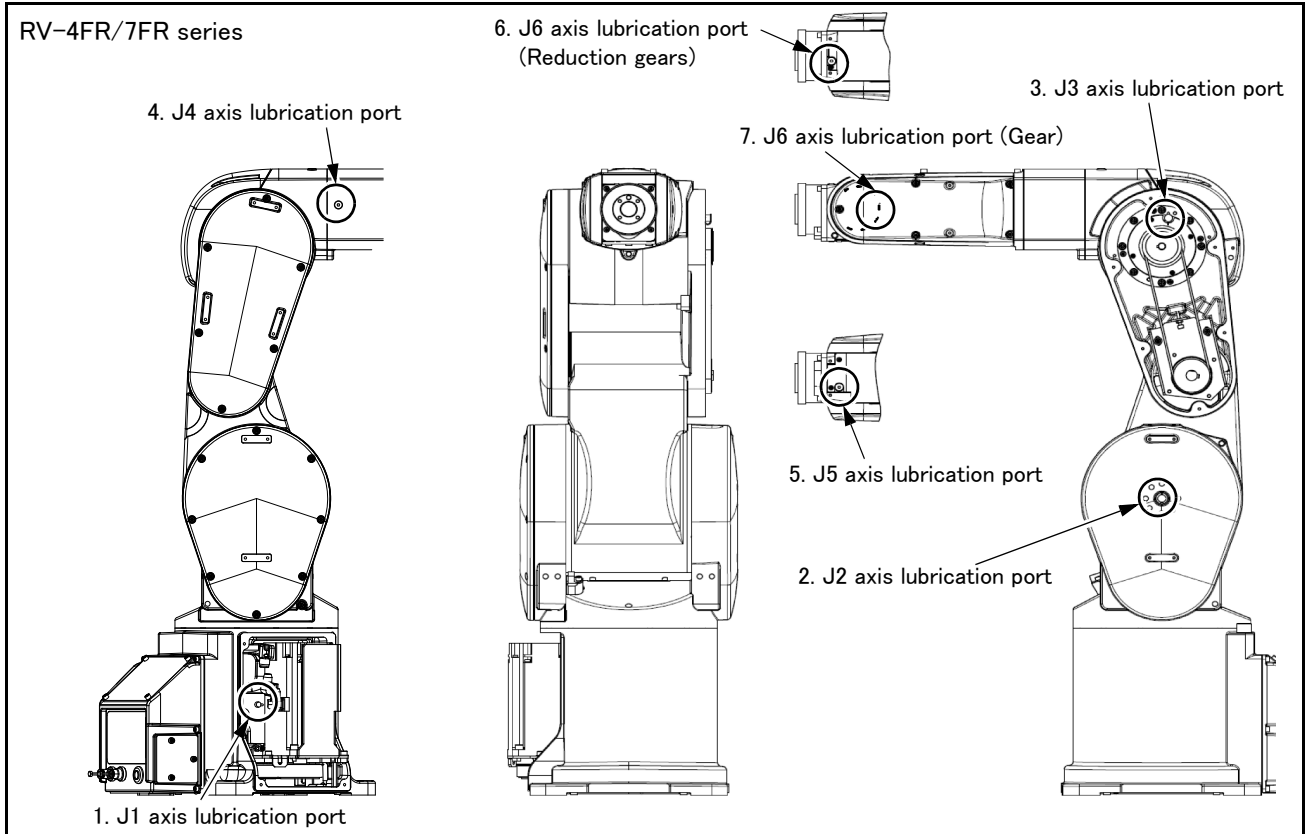
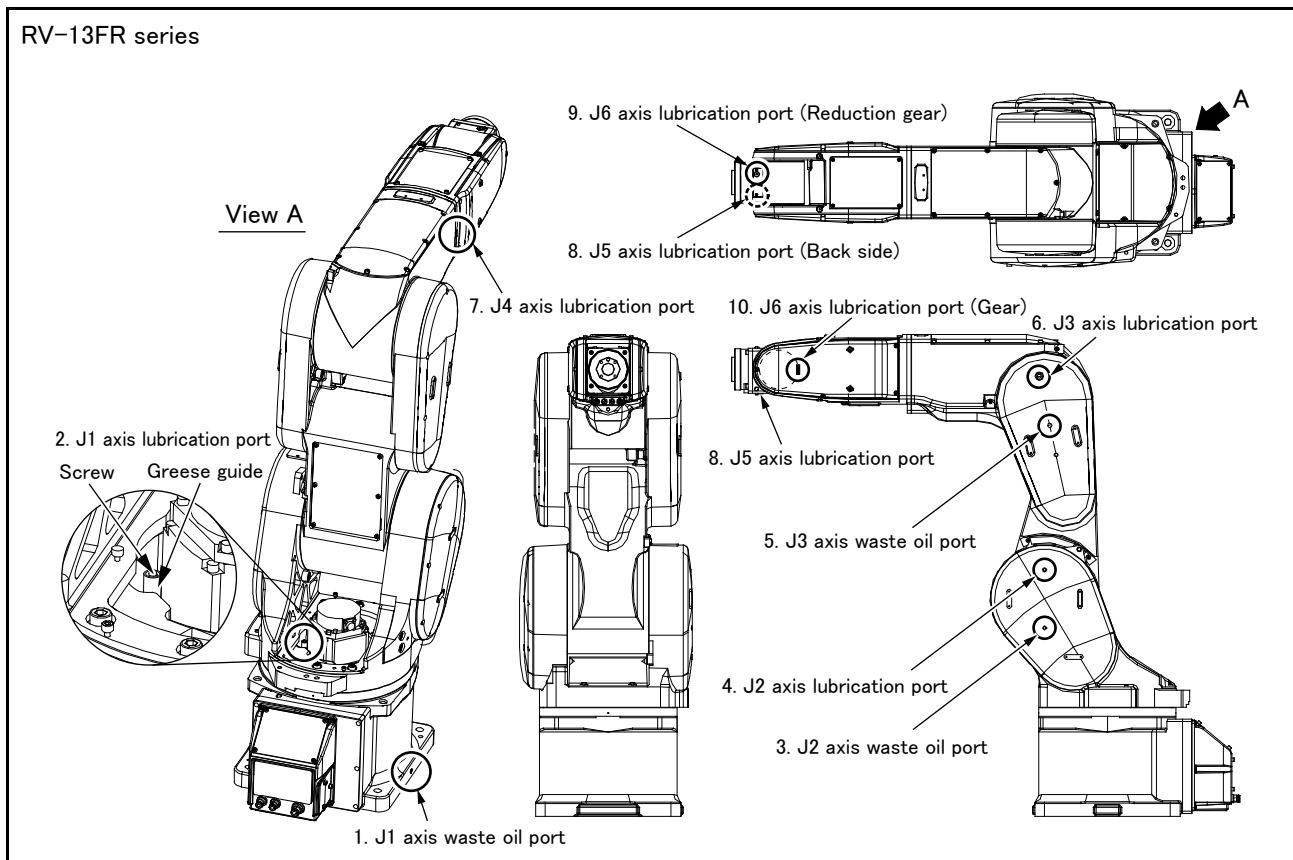

Fig.5-28 : Lubrication positions (RV-4FR/7FR series)
Fig.5-29 : Lubrication positions (RV-13FR series)
The grease nipple position is shown in Fig. 5-28 (RV-4FR/7FR series) or Fig. 5-29 (RV-13FR series). The lubrication specifications for each place are shown in Table 5-11. Refer to the Page 103, "5.3.2 Installing/removing the cover" for the method of removing and installing the cover.
- The numbers in Table 5-11 correspond to the supply positions in Fig. 5-28 (RV-4FR/7FR series) or Fig. 5-29 (RV-13FR series).
- 1) Set the robot to the posture shown in Fig. 5-28 (RV-4FR/7FR series) or Fig. 5-29 (RV-13FR series).